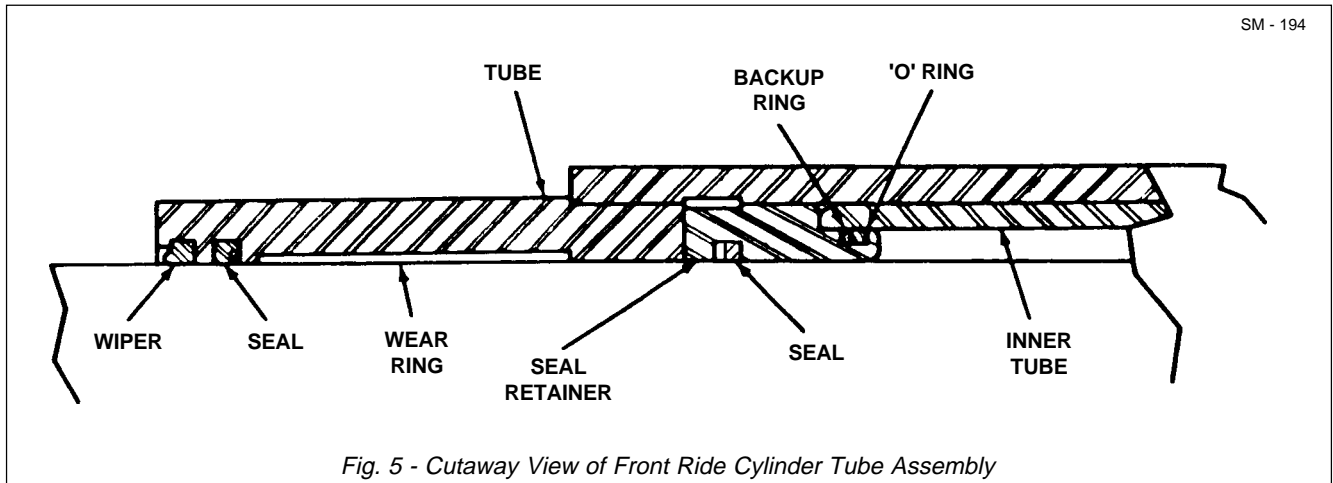

Fig. 5 - Cutaway View of Front Ride Cylinder Tube Assembly
1. Install new seal (23), backup ring (12) and 'O' ring (22) to seal retainer (19). Press seal retainer (19) assembly down into tube (18) until the retainer bottoms at the lower end of the tube. Refer to Fig. 5.
2. Install new 'O' ring (15) on inner tube (14). Insert inner tube (14) into tube (18). Refer to Fig. 5.
3. Install wear ring (11) to piston (13) and install piston assembly to piston rod (24). Slide piston (13) up piston rod (24) enough to install ball bearing (3) in the piston rod.
4. Secure piston (13) assembly to piston rod (24) with bolts (17) and hardened washers (8). Do not tighten bolts (17) at this time.
5. Install wear ring (25) in tube (18) with wear ring joint in line with lube fitting (21).
6. Install seal (10) and wiper (9) in tube (18).
7. Insert piston rod (24), piston (13) and wear ring (11) through the top of tube (18) as an assembly. Make sure ball bearing (3) is correctly positioned in piston rod (24).